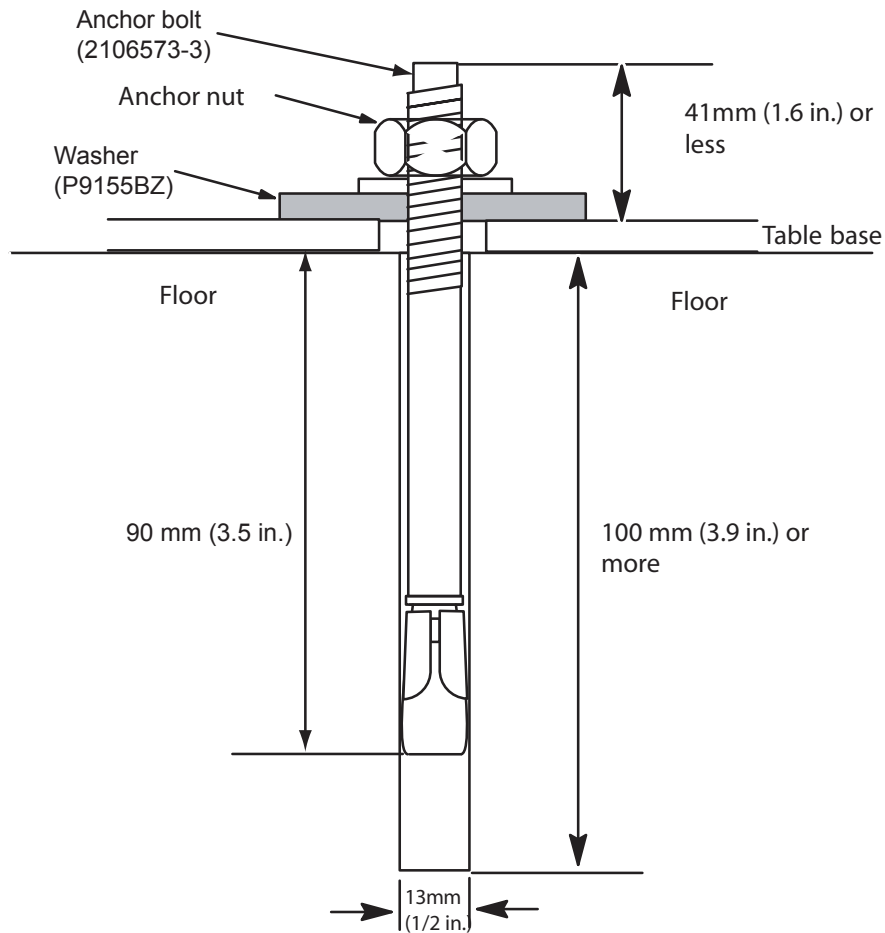

Figure 1-61 Lite Table Anchor Assembly
- 2.) Assemble the anchors before you install them. Refer to Figure 1-61.